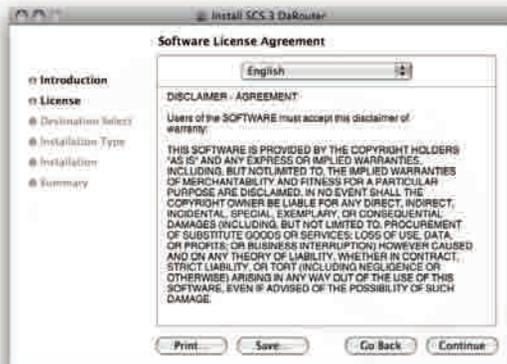

Figure 5.31
4. Read the License Agreement and click **Continue**. (Figure 5.31)